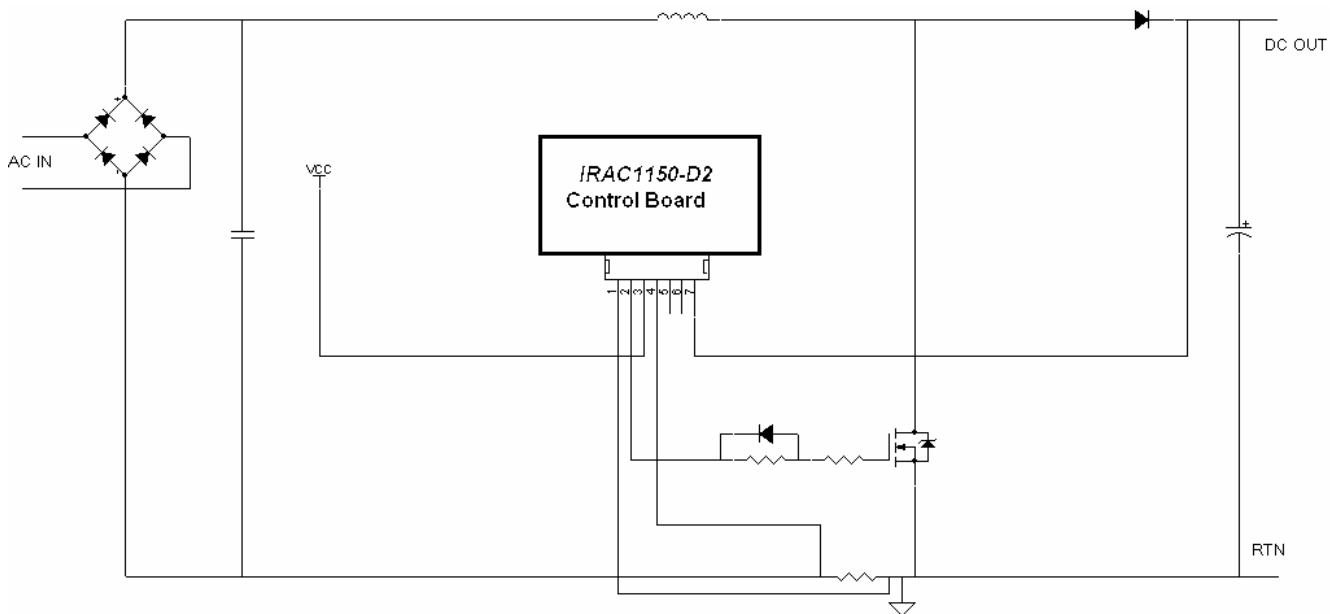

Figure 7 - IRAC1150-D2 Control Board Integrated into Existing Design
The IRAC1150-D2 Control Board can be integrated into SMPS designs with minor circuit level modifications. Many components can be removed from the above design when using the IRAC1150-D2. System performance will be maintained while the number of required components and pcb space will be greatly reduced. The IRAC1150-D2 Control Board is integrated into the existing design as shown below in Figure 7. The board is designed for a V_{CC} range of 14VDC to 20VDC.
The IRAC1150-D2 provides voltage divider strings for both the output voltage error amplifier and the overvoltage protection comparator on-board, so pin 7 is connected to the output of the converter as shown in Fig. 7. In designs where resistor divider strings are present on the motherboard, the IRAC1150-D2 can be modified according to the following, (ref schematic Fig.1). Output voltage is set for a nominal 390VDC.
- An additional feature of the IRAC1150-D2 is the OVP/EN function, (pin 5), which is shown in the circuit of Figure 7 as not connected. This pin can be brought out into the circuit in order to initiate “sleep mode” feature of the IR1150S control IC.